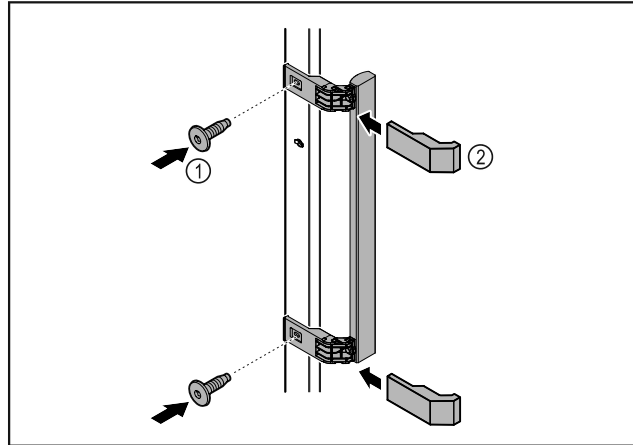

Fig. 51
- ▶ Attach handle from accessory kit to the door using the screws supplied Fig. 51 (1).
- ▶ Put on cover Fig. 51 (2).